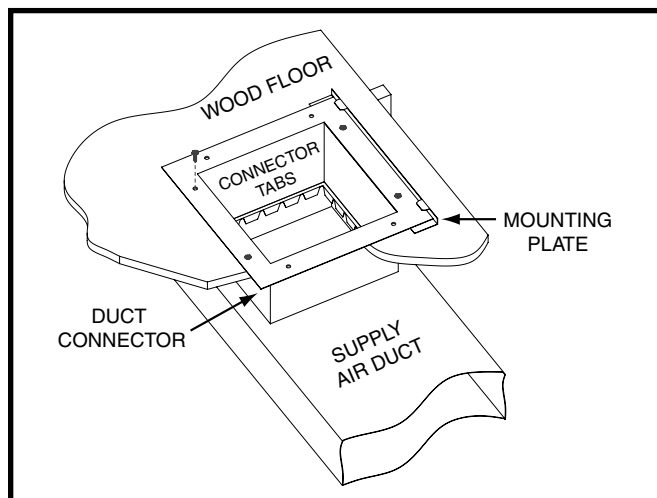

Figure 8. Standard Duct Connector Installed
Duct connectors are recommended for heated air distribution in under-the-floor duct systems. With this system, furnaces may be installed on combustible flooring without a separate sub-base. The furnace rear mounting plate (Figure 8 \(page 10\)) supplied with the duct connectors is recommended for use with this type of installation.
2. Mark the cut-out area on the supply air duct by tracing around the connector tabs of the duct connector. See Figure 8.
5. Install the mounting plate (Figure 8) under the back side of the duct connector. Align the screw holes in both components.